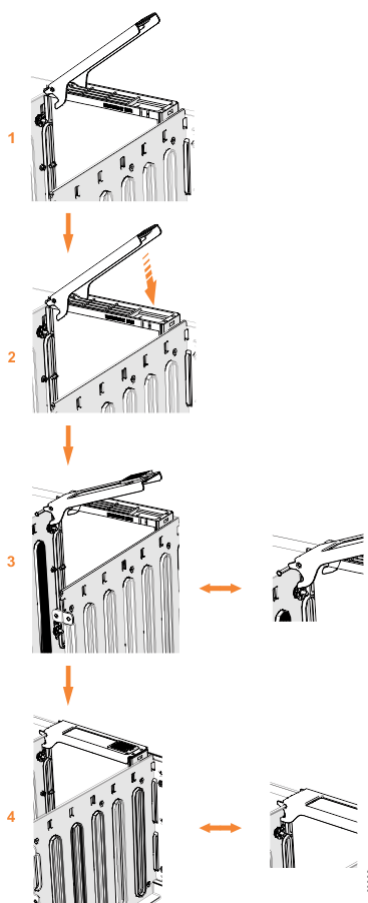

Figure 143. Replace the drive
14. Ensure that the drive handle (1 in Figure 143 on page 204) of the drive assembly is in the open (unlocked) position.
16. Lower the drive down, without pushing, until it stops and the bottom of the latch is aligned with the top of the partition. Ensure that the handle is not open more than 45 degrees from the drive carrier. (2 in Figure 143 on page 204). If the drive does not slide down easily then inform IBM remote technical support.
17. Rotate the handle down to lock the drive assembly into the chassis (3 in Figure 143 on page 204).
19. Ensure that the top toe of the latch is also fully engaged (4 in Figure 143 on page 204).